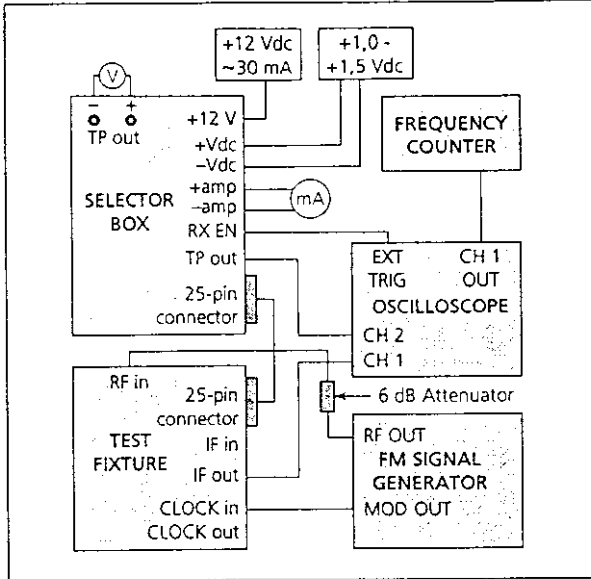

Figure 6. Equipment setup for alternate procedure using Signal Generator and Oscilloscope.
1. Connect the test equipment as shown in figure 6.